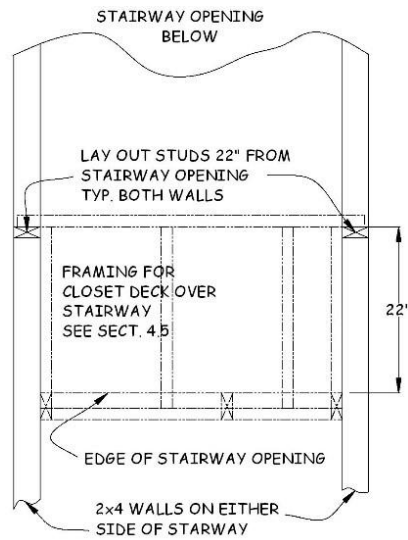

Figure 3-10. Stud Layout Around Stairway Opening.
- a. If so, start the layout of both side walls by placing a stud 22” from the back edge of the stairway opening. Continue laying out studs in both directions from those points. This layout aids in installing the platform. (Figure 3-10 below.)